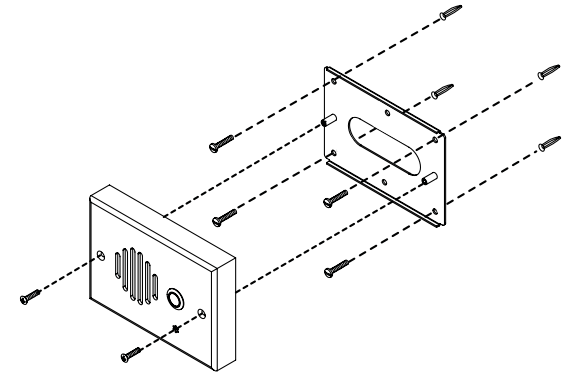

Figure 8: DSS3 Mounting Plate
4. Mount the door station to the surface bracket, as illustrated in Figure 8. Note the orientation of the Mounting Plate flanges.
The DSS3 has a surface mounting plate that attaches to most surfaces with 4 wall anchors (included). Attach the door station and surface bracket as shown in Figure 8.